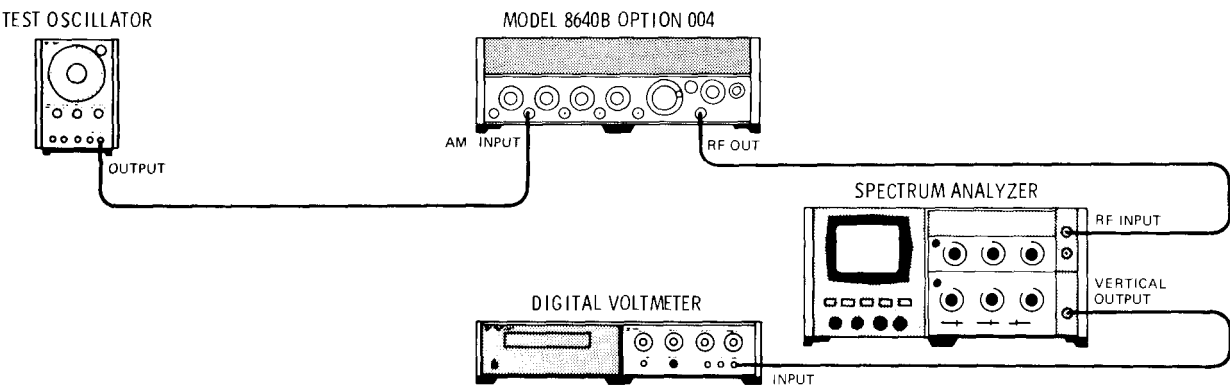

Figure 4-25. AM Flatness Test Setup
1. Connect equipment as shown in Figure 4-25 after setting Signal Generator's controls as follows: